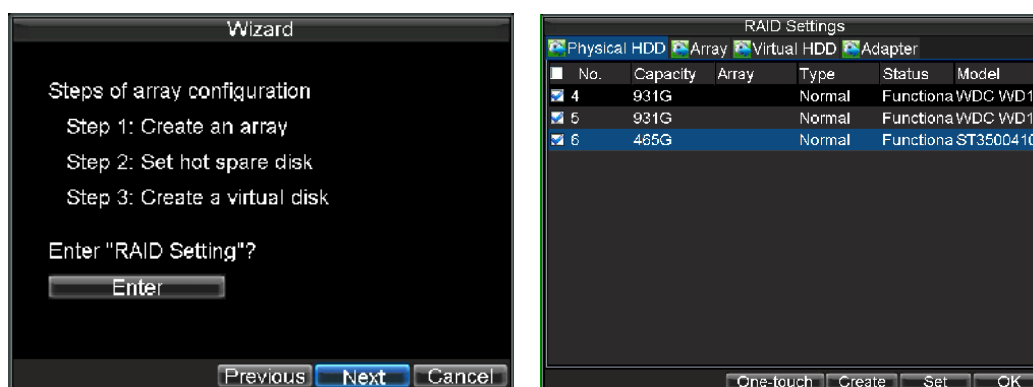

Figure 7. Enter RAID Configuration
- a) Click the Enter button next to Specified Configuration in Wizard to enter the Array Configuration interface, as shown in Figure 7.